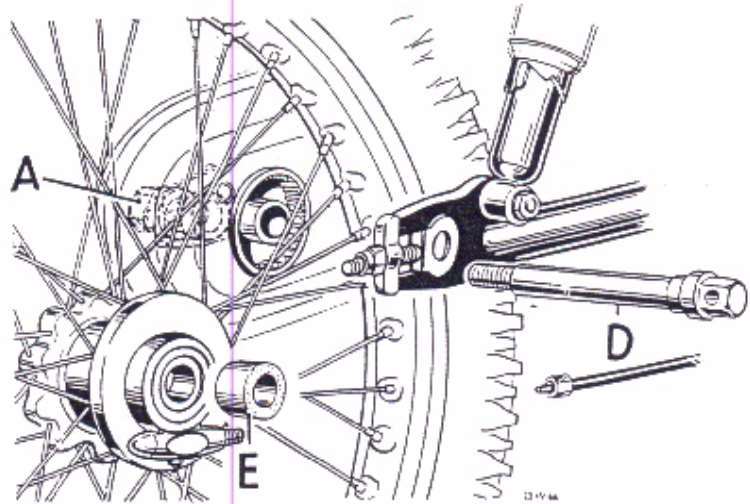

Fig. F4. Removal of rear wheel
Detach the speedometer drive cable then unscrew and withdraw the wheel spindle (D) Fig. F4, using a suitable steel bar through the head. It has